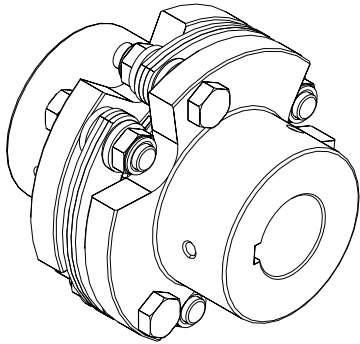
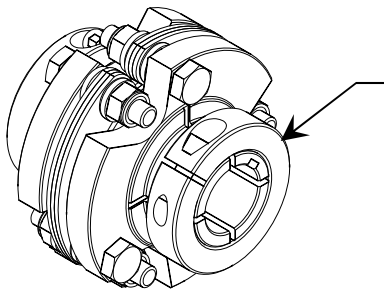
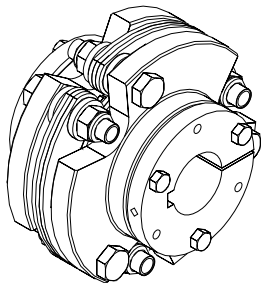

Fig. 1
Fig. 2
Fig. 4
3. Inspect hub bores, shafts and keyways making sure there are no burrs. Clean hub bores and shafts. Standard CD coupling clamped and set screw hubs are supplied with slight clearance fit (see catalog). Install hubs on shafts. Place one of the hubs flush with end of shaft. Tighten hub to shaft: If hub is set screw style (Fig 1), see Table 2 on page 3 for proper tightening torque. If installing clamped (Fig 2) or QD bushing hub (Fig 4) see assembly details on page 3.